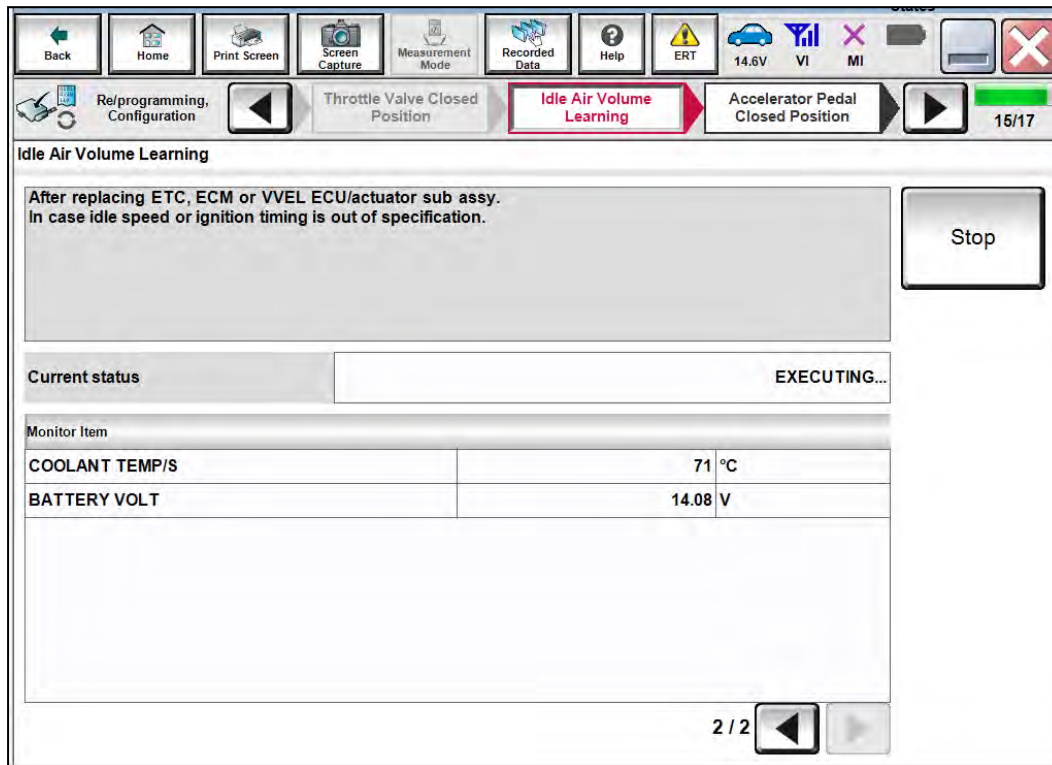

Figure 25
- The screen in Figure 25 will display.